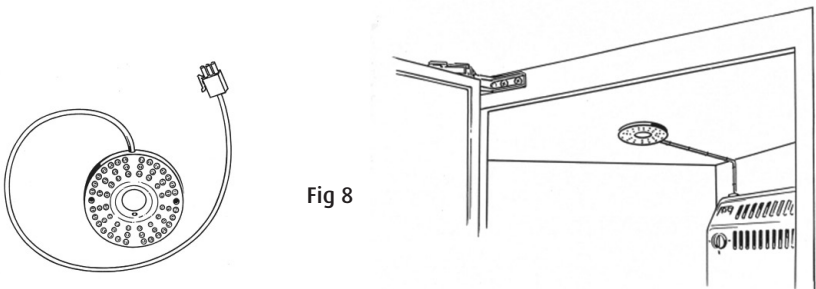

Fig 8
- Screw the LED lamp securely to the ceiling approx 25 cm in from the door frame. Remove the protective tape from the cable trunking and press it firmly onto the ceiling as far as the female connector on the unit. Press the cable into the trunking and push in the plug. (Fig 8)